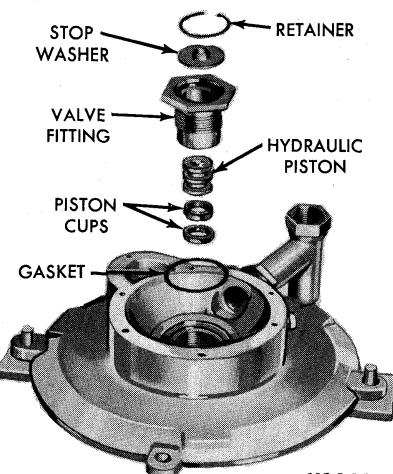

FIG. 47—Hydraulic Control Valve Piston and Fitting
24. Remove the retainer and stop washer from the valve fitting and remove the fitting. Push the hydraulic piston out of the valve fitting, and remove the gasket from the valve fitting (Fig. 47).
27. Place the rear end plate on the holding fixture (Fig. 47), and install the stop washer with the flat side in the valve fitting. Install the retainer.